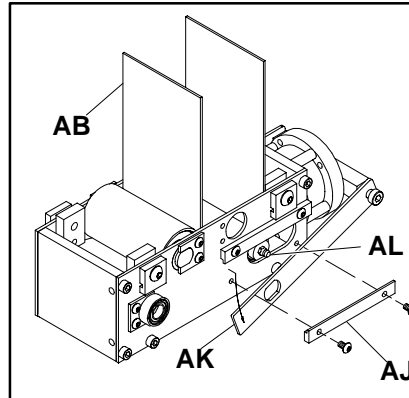

Figure 14
Remove the screws and bottom take-up slide bar (AJ of Figure 14) from one side of the center drive module.
Rotate the side take-up plate (AK of Figure 14) back into position over the take-up pulley grease fitting (AL).